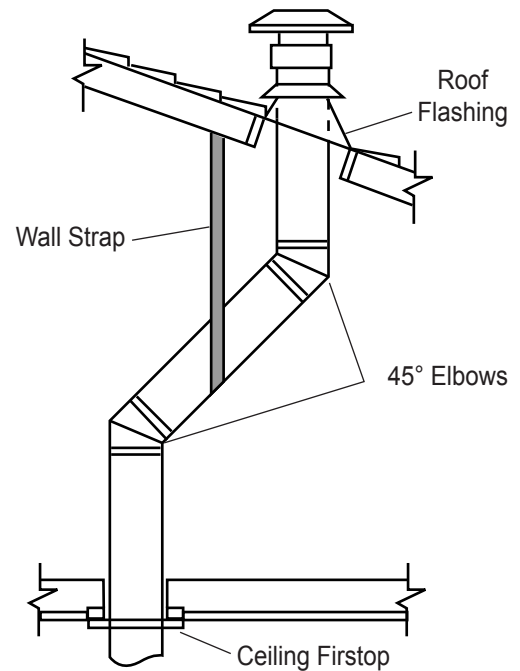

Figure 27 - Offset with Wall Strap and 45 Elbows
1. Determine the route your vertical venting will take. If ceiling joist, roof rafters or other framing will obstruct the venting system, consider an offset. See *Figure 27* to avoid cutting load bearing members.